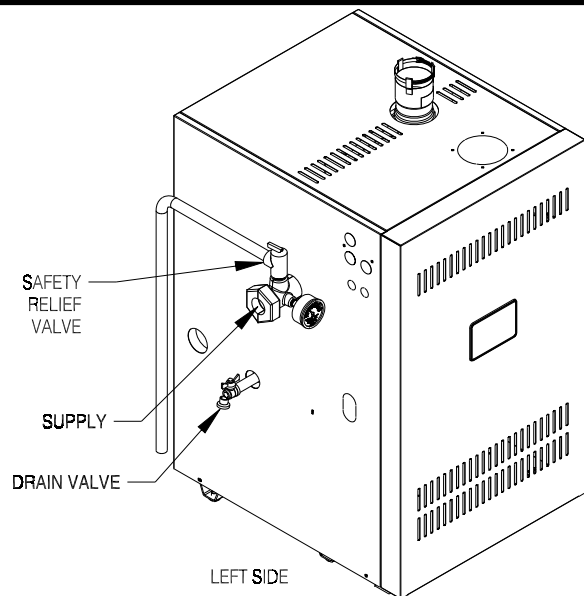

Figure 8-1: Standard Safety Relief Valve Position
- A. Safety Relief Valve (Required) - Mount the relief valve on the left side of the boiler as shown in Figure 8-1 using the 1-1/4 supply water manifold provided with the boiler. The relief valve shipped with the boiler is set to open at 30 psi. This valve may be replaced with one having a pressure up to the "Maximum Allowable Working Pressure" shown on the rating plate. If the valve is replaced, the replacement must have a relief capacity in excess of the minimum relief valve capacity for the boiler.
- J. Drain Valve - The drain valve is shipped in the boiler parts bag. Install it in the 3/4 in. tapping as shown in Figure 8-1.